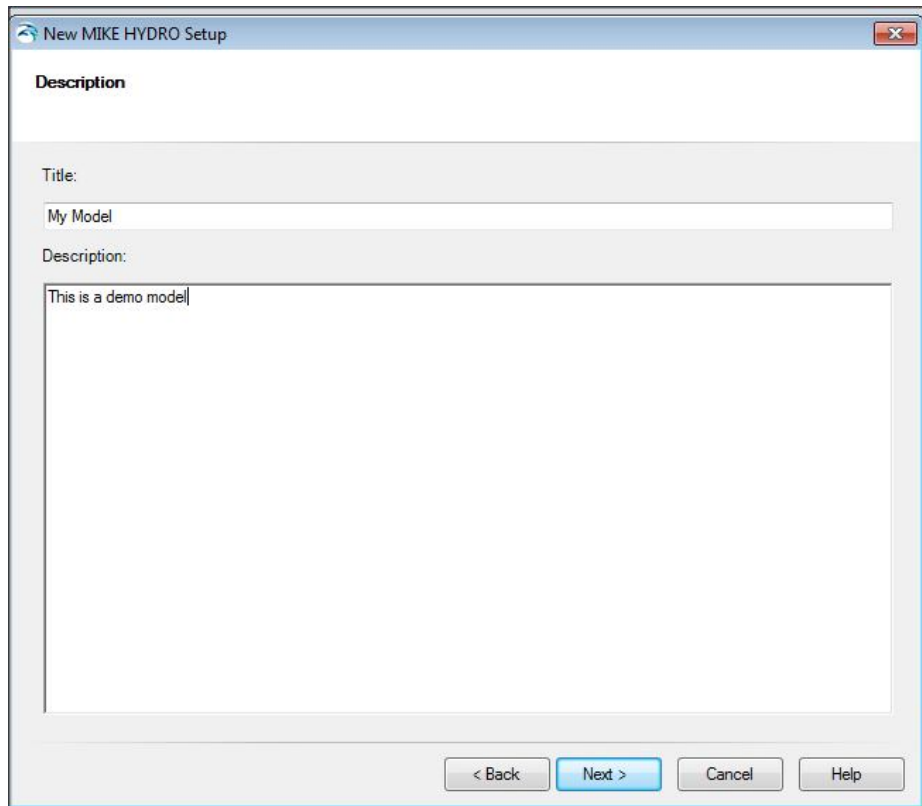

Figure 8: Description dialog.
- Description: The Description dialog appears (Figure 8) and it includes the option for supplying a user specified 'Title' and a 'Description' for the simulation and the project in general. Every simulation should be given a Title to help in describing the actual simulation performed. The title is also included as part of the default name for result-files defined by MIKE HYDRO. Give your model a Title and description and then Press the 'Next' button to move to the next step.